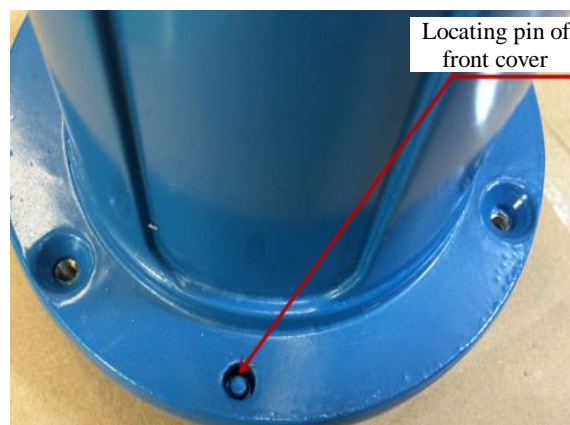

Figure 5-10
6. Cover the front cover. Please note that the locating pin on it is aligned with the corresponding hole on the light body (Figure 5-10).